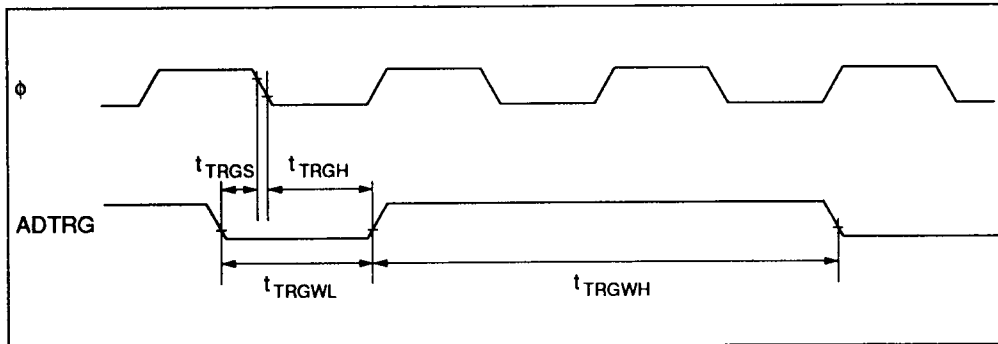

Figure 21-18 8-Bit A/D Converter Timing
21.3.9 8-Bit A/D Converter Timing	Figures 21-18